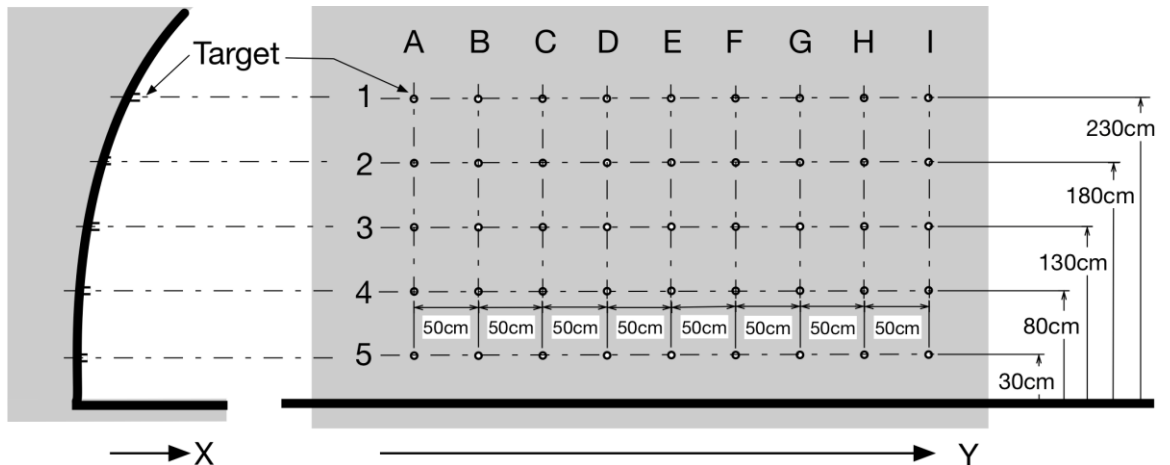

Figure 7-5-2: Positions of Targets on Tunnel Wall
7.5.3.1.1. The targets are in positions shown in figure 7-5-2.